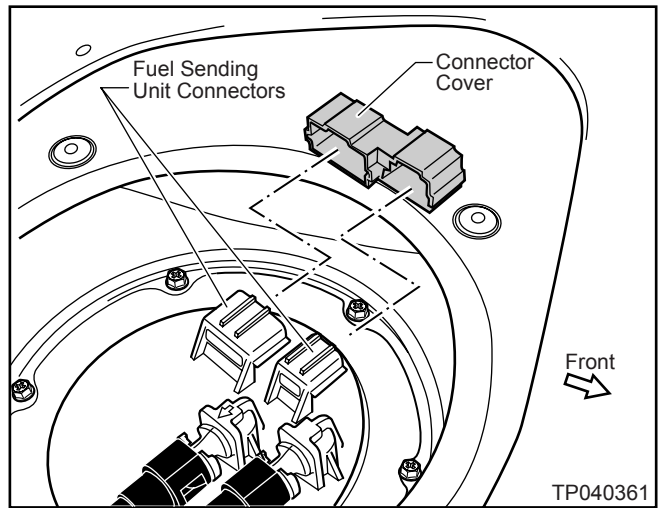

Figure 31
11. Install the Connector Cover onto the Fuel Sending Unit Connectors until it is fully seated. See Figure 31.